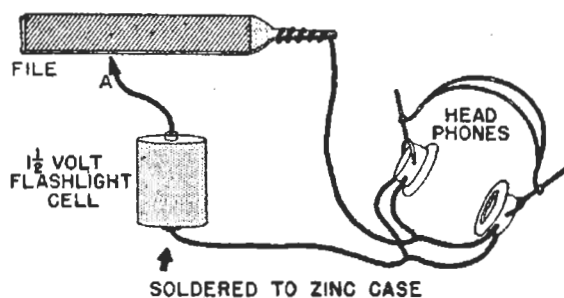

FIG. 1. While scratching the file with contact "A," a clattering, static-like noise will be heard in the phones.
► You can demonstrate one kind of noise to yourself with the simple circuit shown in Fig. 1. Place a pair of headphones in series with a flashlight cell, attach one side of the circuit to the file, then draw lead A across the file teeth. You will hear a clattering noise in the phones which will be quite similar to the noise caused by several radio difficulties.